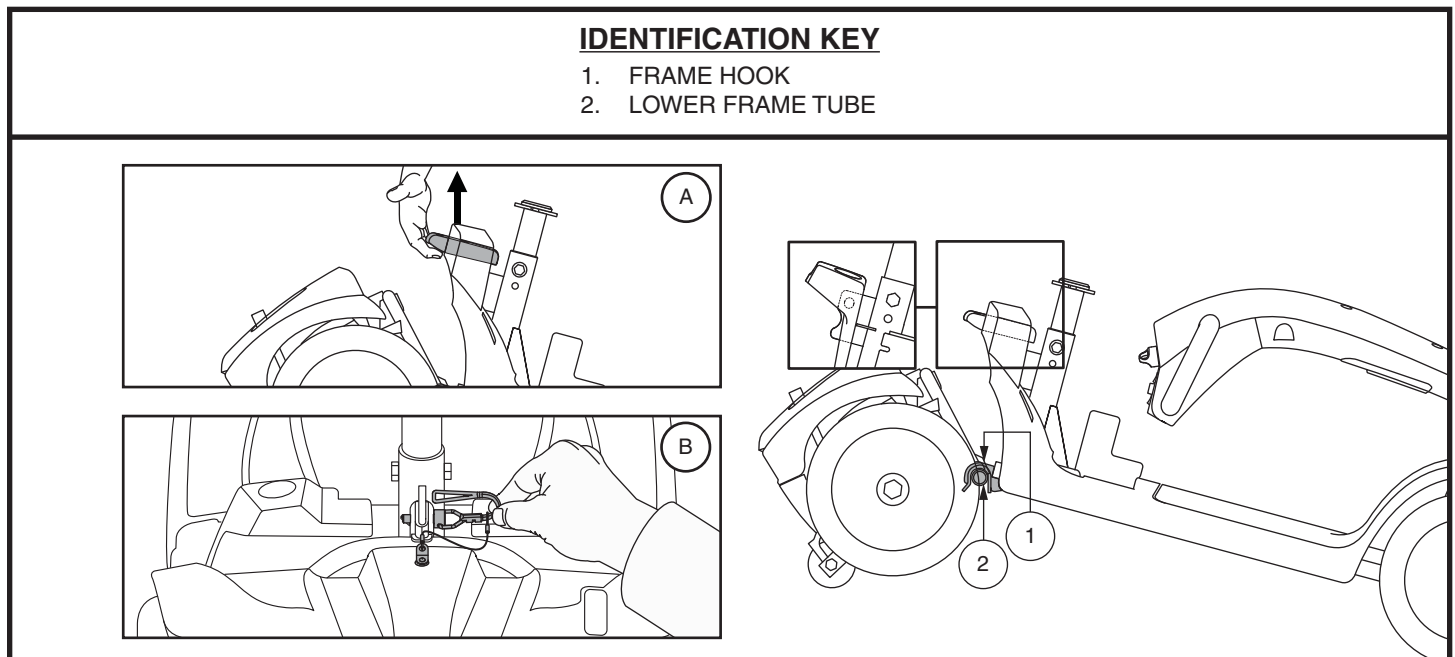

Figure 23. Frame Release Lever (Style A) and Frame Release Lockup Pin (Style B)
3. Remove the frame lockup pin (Model 104 only) See figure 23.
1. Position the front and rear sections of your scooter as shown in figure 23.
2. Use the frame release lever (or the seat post for model 104) to lift the front section as you align the frame hooks of the front section with the lower frame tube of the rear section. See figure 23.